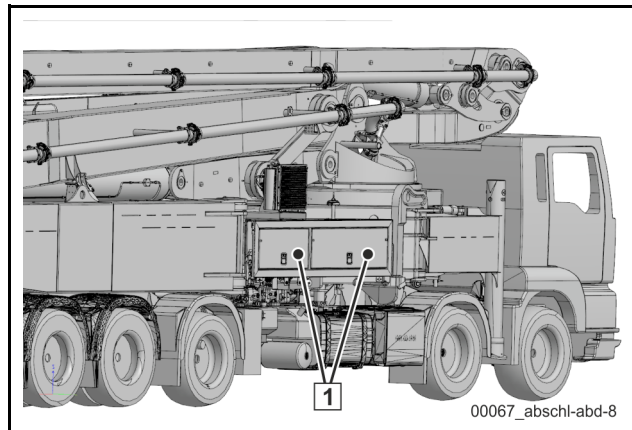
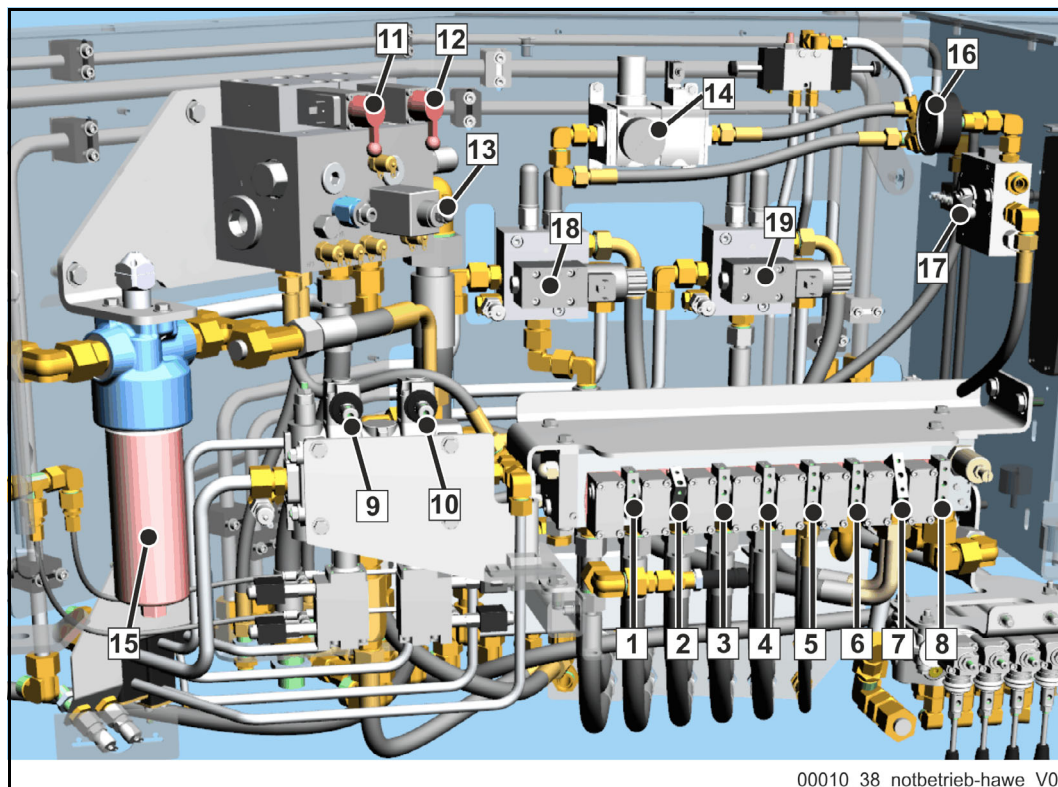
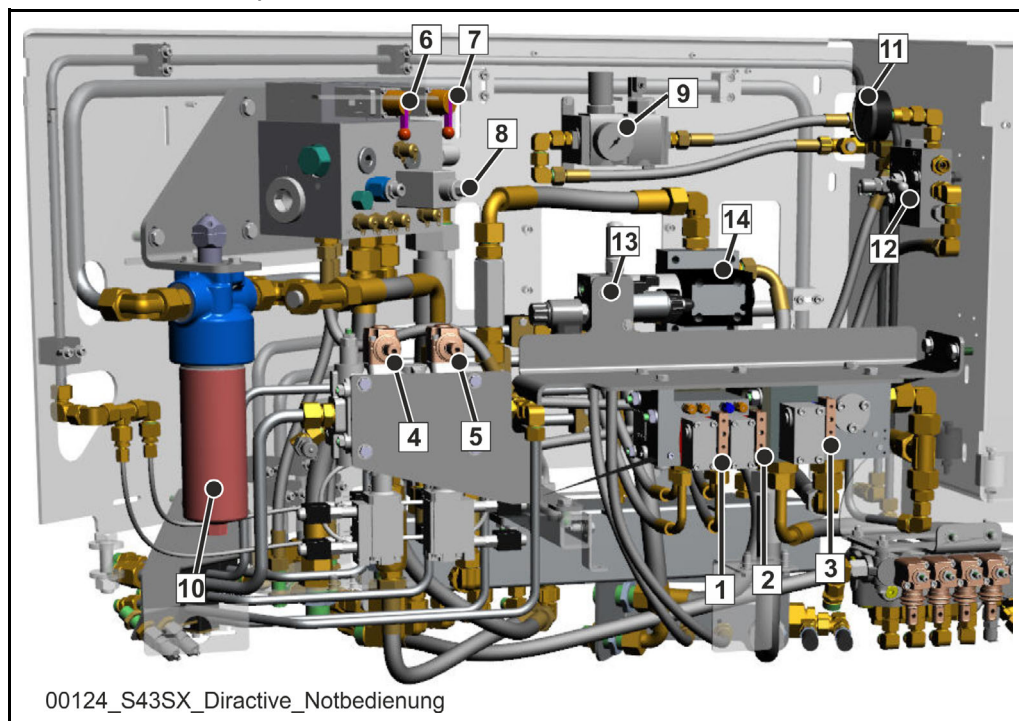

Fig. 217 Position, "emergency operation" control platform (example illustration)
Fig. 220 Control station for operating mode: Emergency operation (example illustration)
Fig. 221 Control station for operating mode: Directive emergency operation (example illustration)
The emergency operation control platform (**Fig. 220**) is located on the right in the direction of travel, behind a lockable flap (1) (**Fig. 217**).
To do this, the control lever (7) (**Fig. 220**) has to be moved into the “Placing boom” position and held there. In addition, the respective control lever for boom function 1 - 6 must be actuated.
In emergency operation, the release button may not work and the control lever (7) (**Fig. 220**)/(**Fig. 221**) has to be actuated manually.
If this is not possible, instruct an assistant to switch the control lever (7)/(**Fig. 220**)/(**Fig. 221**) into the "Outrigger" position and to hold it in place.